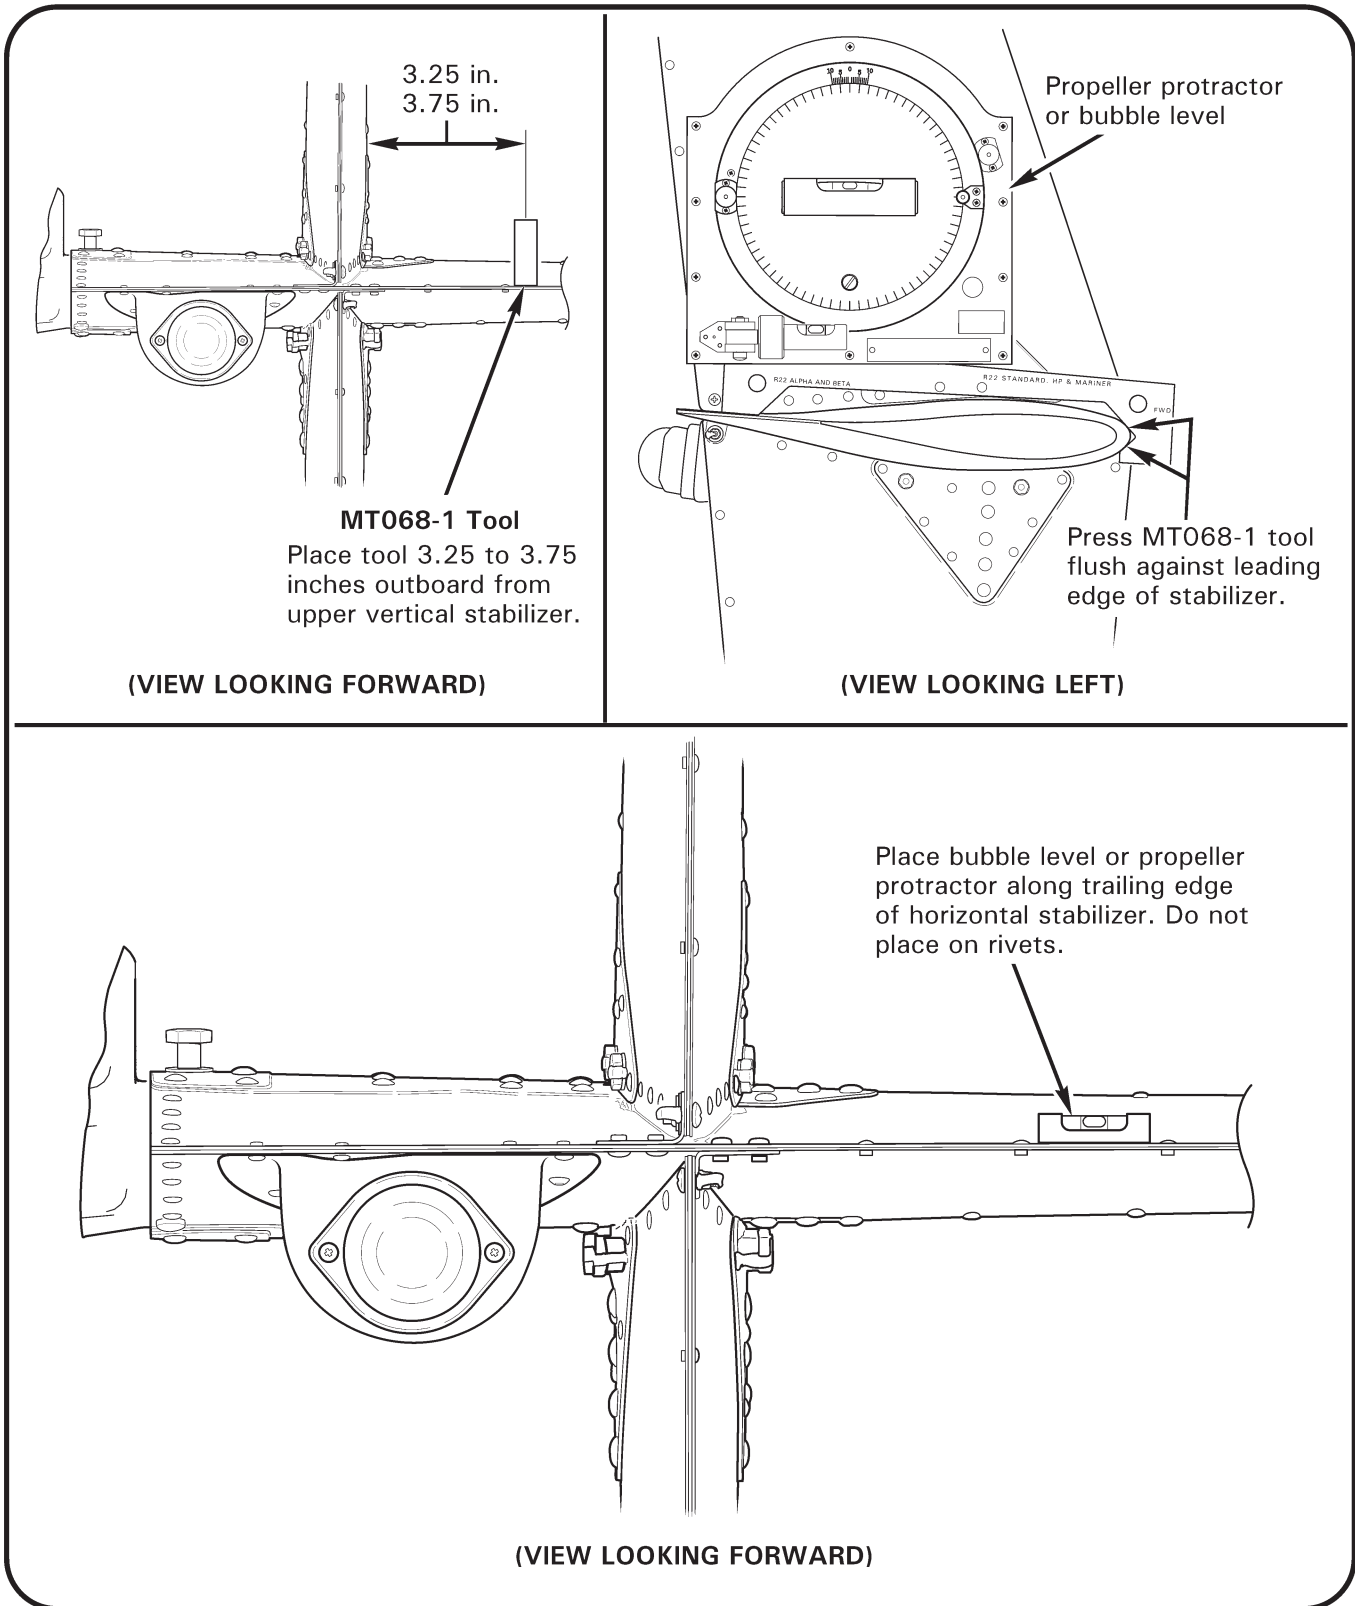

FIGURE 4-6 EMPENNAGE ASSEMBLY REPLACEMENT
2. Refer to Figure 4-6. Position empennage assembly on tailcone aft bulkhead. Insert (2) NAS1304-28 bolts thru top mounting holes in A044-1 horizontal stabilizer.